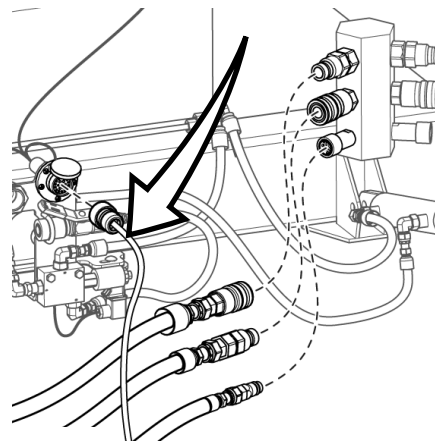

Fig. 61 .
15. Secure the three quick couplers and the 21-pin plug to the windrower as shown below in Fig. 61. The 21-pin plug is store on the bracket on the read pf the swather's upper tube as shown in Fig. 62.